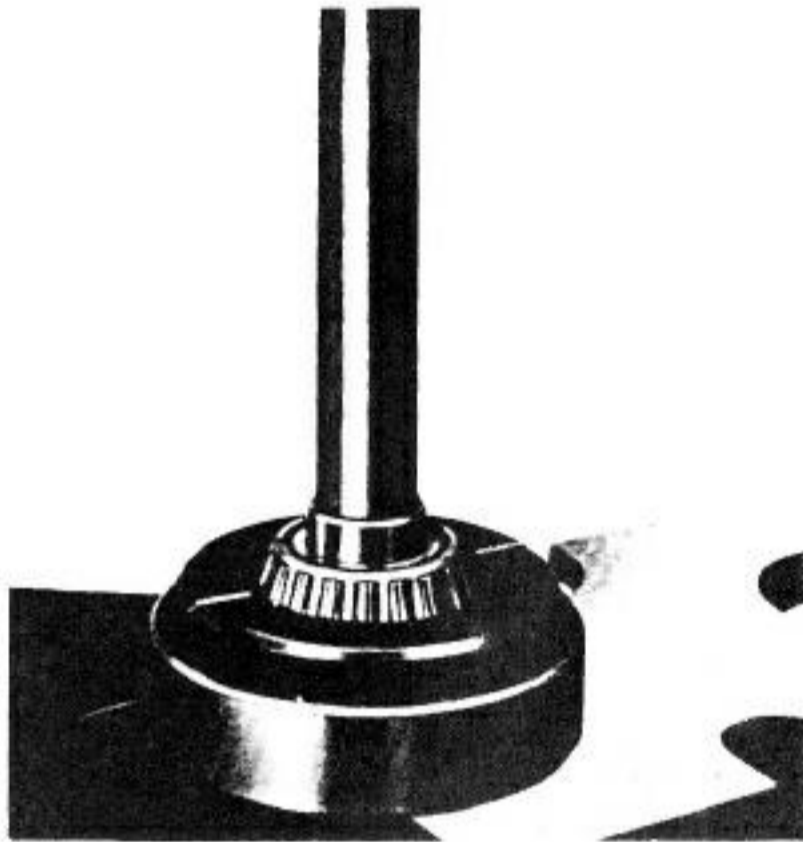
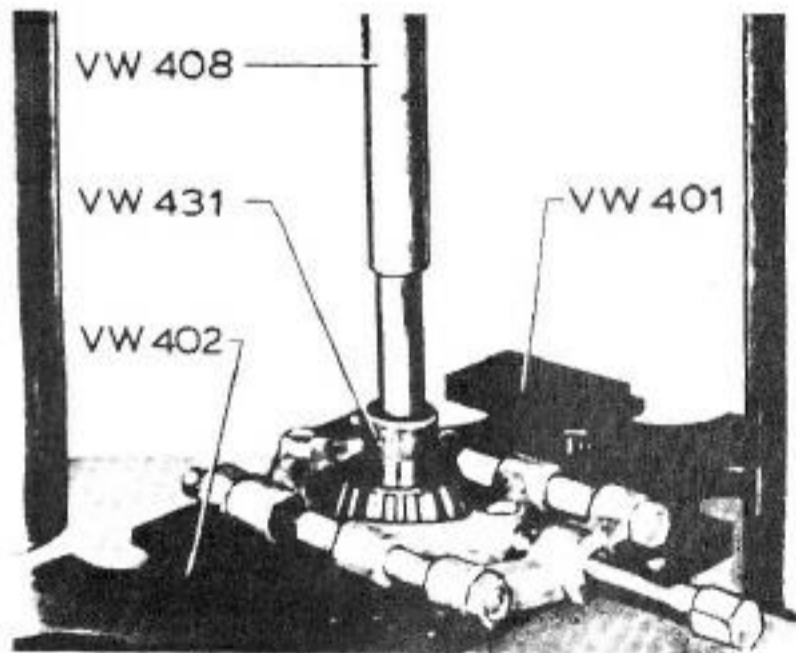

Fig. 11-10. Press setup for pressing off inner race of pinion tapered-bearing in early version.
Fig. 11-11. Separator device for pressing off late-type inner race of pinion tapered-bearing.
In model year 1969, a strengthened pinion gear was introduced. The new shape requires a different setup for pressing off the inner race of the tapered-roller bearing. Fig. 11-10 shows the setup for the early version. Fig. 11-11 shows the setup for the post-1969 version. With either it is difficult to avoid ruining the bearing.
10. Press the tapered-roller bearing inner race off the pinion with the setup shown in Fig. 11-10 or Fig. 11-11.